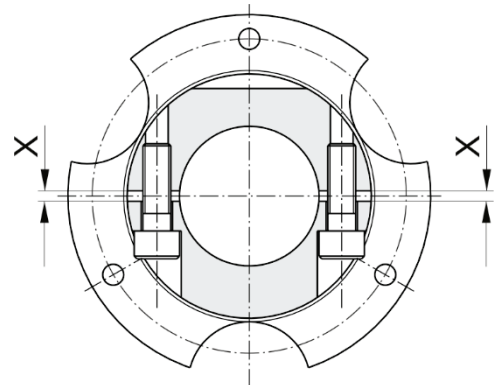

Fig. 7
- d) Tighten the cap screws (1.7.1) cross-wise and in several tightening sequences to the tightening torque stated in Table 1. Please make sure that the gap "X" (Fig. 7) has the same size on both hub sides.